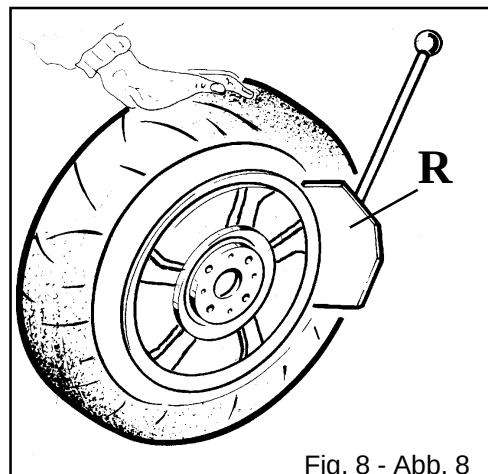

Fig. 8 - Abb. 8
- *Position the wheel against the rubber stops on the right side of the tyre changer (S).*
- *Position the bead breaker blade (R) against the tyre bead at a distance of about 1 cm from the rim (fig.8). Pay attention to the blade, which must operate correctly onto the tyre and not onto the rim.*
- *Press down the pedal (U) to activate the bead breaker and release it when the blade has reached the end of its travel or in any case when the bead is broken.*